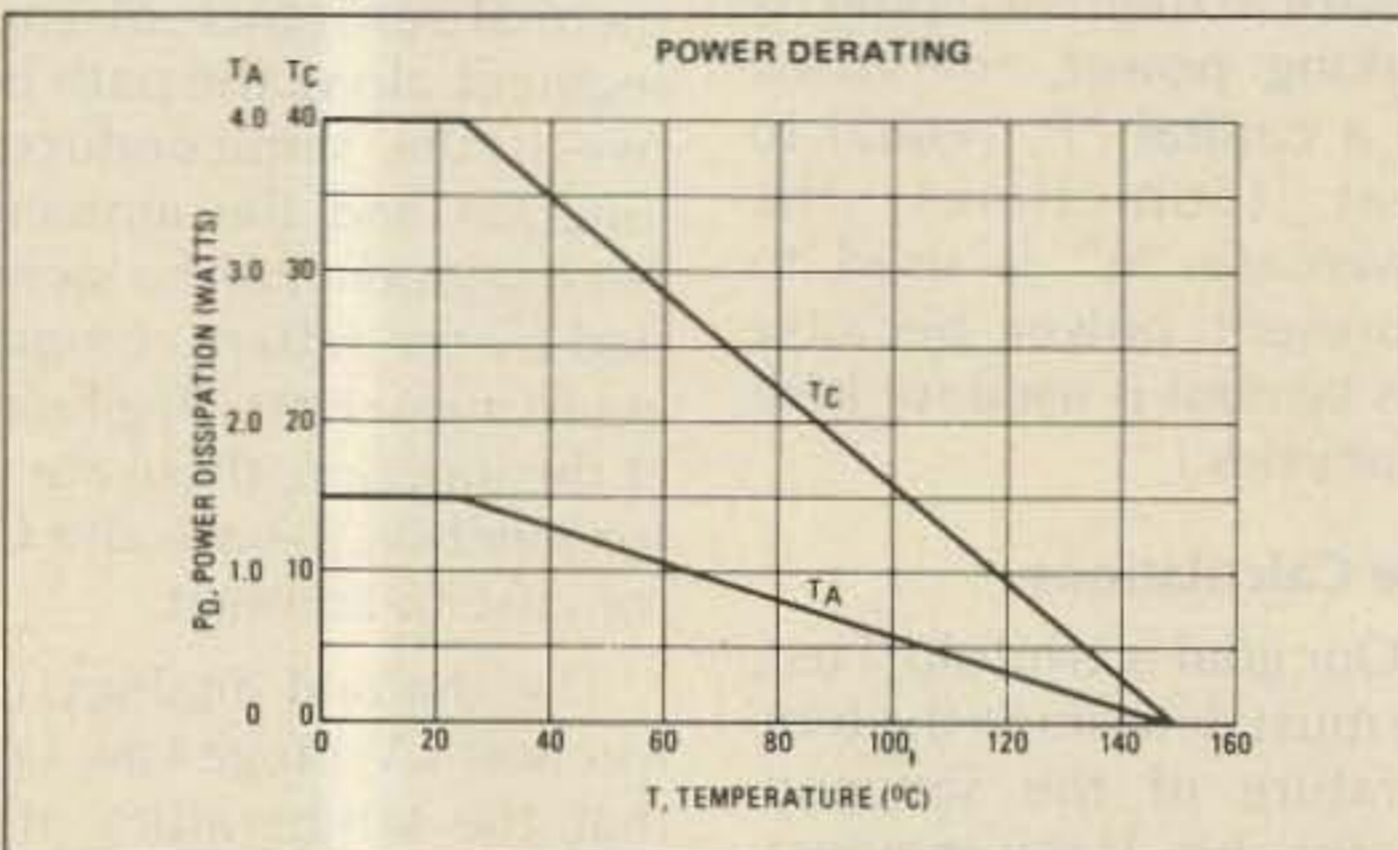

Fig. 6. Semiconductor thermal specifications and parameters.
facturers' data sheets, details of how the values for thermal resistances are obtained have not been discussed. Yet determining these values from the specifications sometimes requires skill. Familiarity with the types of data most likely to appear in the data sheet is necessary to success. With the aid of the data sheet appearing in Fig. 6, this data and its interpretation are described in the following paragraphs.
The data sheet in Fig. 6. was chosen to illustrate common methods of specifying semiconductor thermal specifications for two reasons. First, all of the specifications are labeled clearly and are arranged into a single, logical area of the specification. This is not true of all semiconductor data sheets. Often, thermal specifications, particularly for linear integrated circuits, are placed in notes. (The entire data sheet should be read before concluding that they have been
omitted.) The second reason for selecting the data sheet shown in Fig. 6 was that it contained all of the data relating to thermal specification. A typical data sheet will provide only a portion.
Thermal resistance is specified by direct specification, by derating, and by thermal-related parameters. A manufacturer uses direct specification when he tabulates thermal resistance in data sheets. The designer simply inserts the specified values into his thermal equations. Items 4 and 5 of Fig. 6 illustrate direct specifications.
Notice (in item 6 of Fig. 6) that Motorola gave a derating curve for both case and ambient temperatures. Each curve is labeled with the appropriate temperature.
The fact that this data agrees with the derating curve can be verified by comparing these two points on the derating curve labeled T_C in Fig. 6, item 6. Though Motorola seems to specify P_{max} as part of the derating specification, the appearance is created by the organization of the data
The semiconductor data contained in Fig. 6 was reproduced from page 4-195 of the *Power Device Data Manual*, 1st Edition, copyright 1978 by Motorola Semiconductor Products, Inc., Phoenix, Arizona. Permission to print this portion of the manual was provided by Motorola. ■